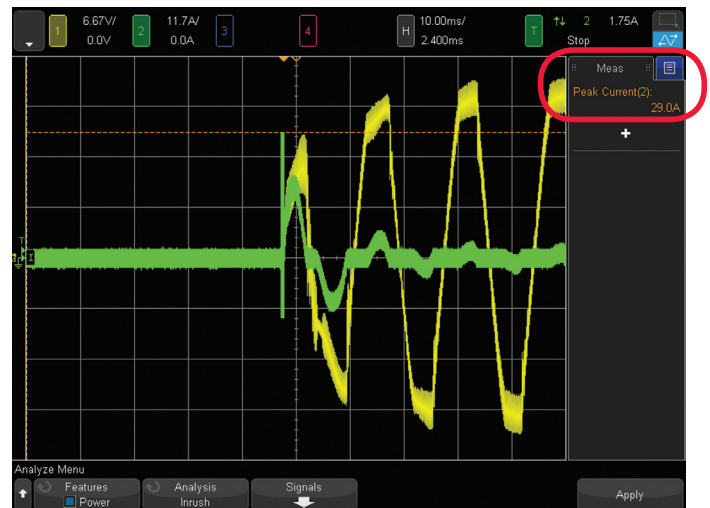

Figure 14: Inrush current measurement
12. Repeat several times in order to obtain the worst-case peak inrush current as shown in Figure 14.